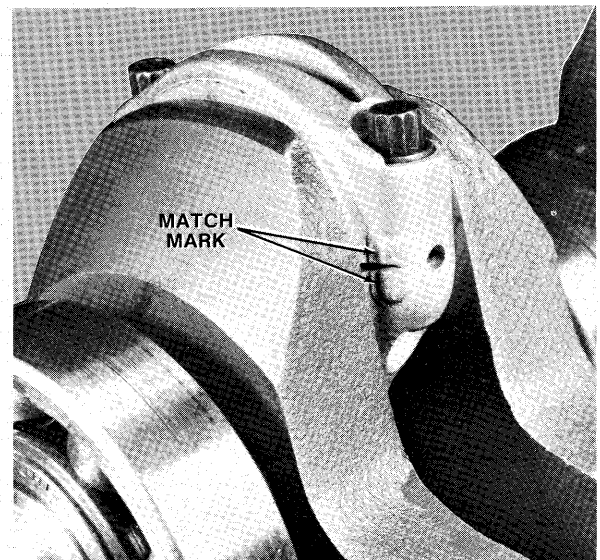

Figure 11—Match Marks on Connecting Rod
- I. Install rod cap over crank pin needle bearing and cage with match mark on rod shank aligned with match mark on rod cap as shown in figure 11.